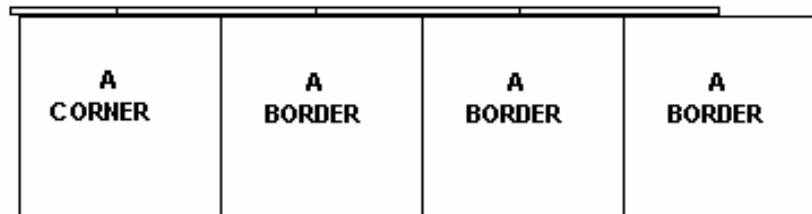

Figure 9
- Next take another transition and lock the next two panels (Figure 9).